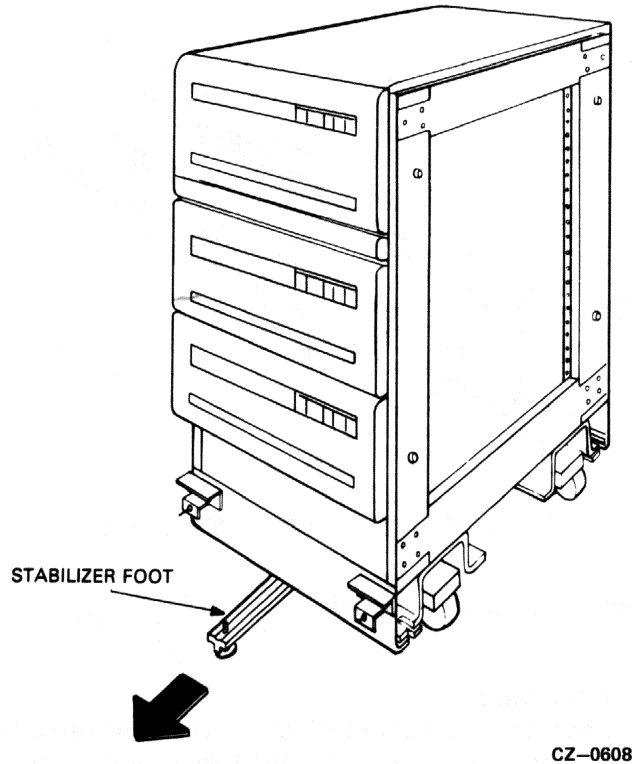

Figure 2-26 Extending Cabinet Stabilizer Foot
1. Extend the stabilizer foot as shown in Figure 2-26.
1. Extend the stabilizer foot as show in Figure 2-26.